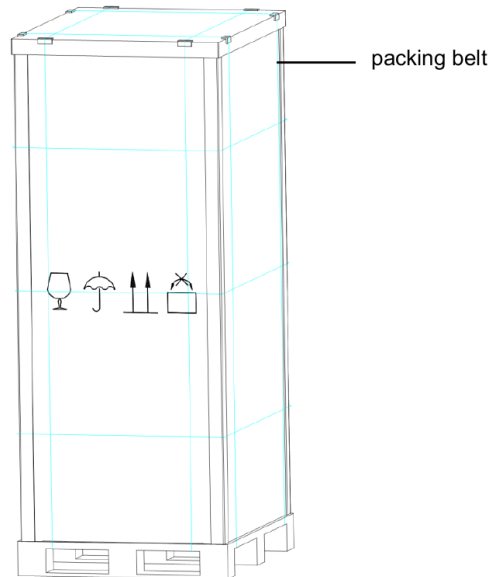

Figure 3-2: Remove honeycomb cardboard and packing belt
1. As figure 3-2 shows, cut packing belt first, then remove Honeycomb cardboard